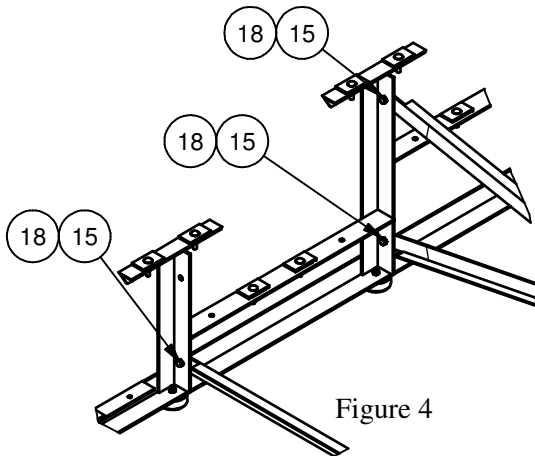

Figure 4
3. Lay out the Frame weldments approximately 6' apart. Install the brace sub-assemblies from step 1 using the 3/8" x 1" hex bolts and 3/8" whizlock nuts as shown in Figure 4. Install the straight brace using the 3/8" x 1" hex bolt and 3/8" whizlock nut as shown in Figure 4.
7. Install the seat planks using the mounting clips, 5/16" x 1" carriage bolts, and 5/16" whizlock as shown in figure 4. Note: these mounting clips, bolts, and nuts are required at every frame position.